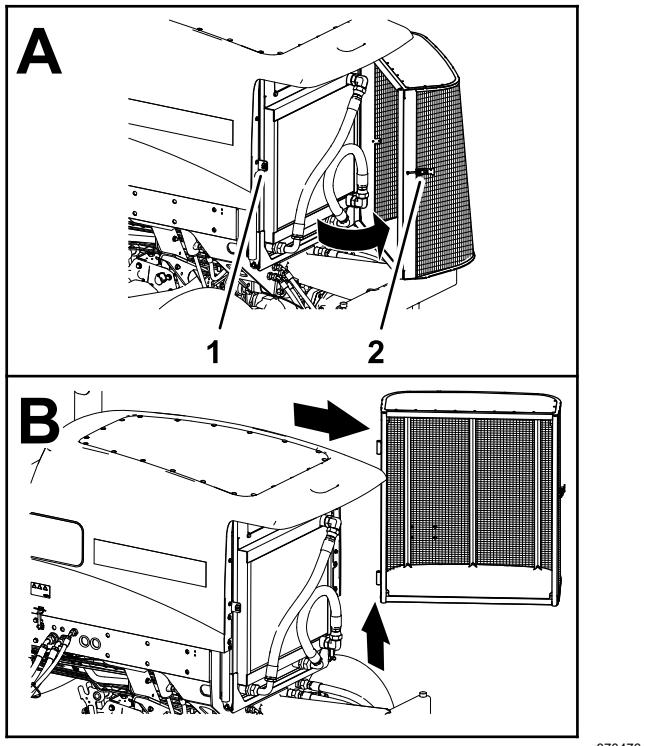

Figure 156
- Unlatch and open the rear screen (Figure 156).